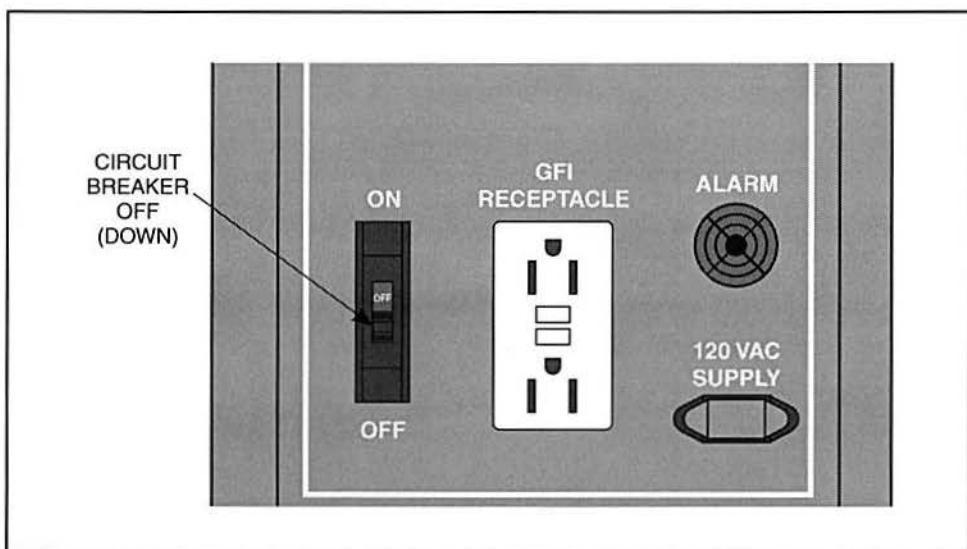

Figure 39. Main Circuit Breaker in the OFF Position
- B. Make sure the circuit breaker is in the **OFF** or down position, as figure 39 shows.